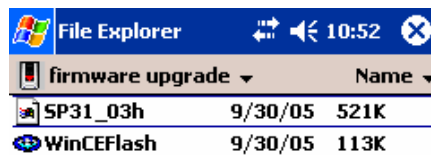

Figure 16. File Explorer
- h. On the iPAQ, tap **File, Programs, File Explorer**. Navigate to the folder where the firmware files were copied (see Figure 16).